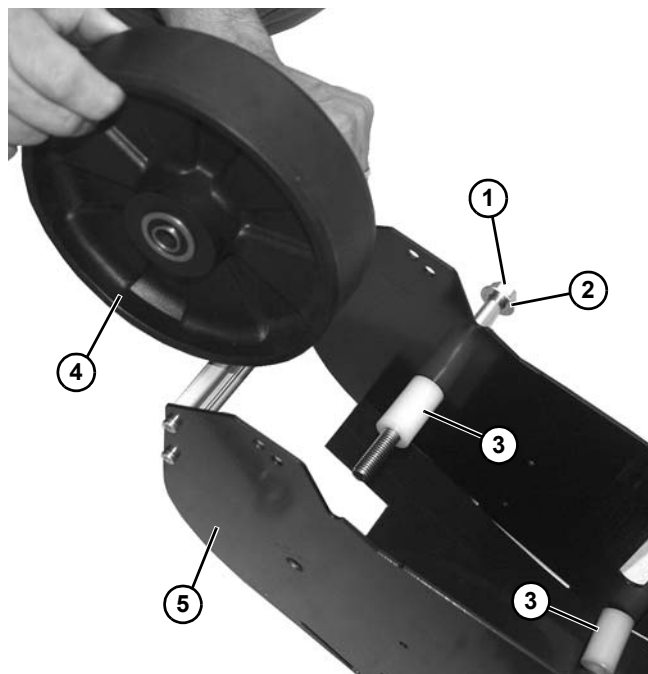

Figure 149
4. Remove bolt (**Figure 149, item 1**), washer (**Figure 149, item 2**), two spacers (**Figure 149, item 3**), and wheel (**Figure 149, item 4**) from take up assembly housing (**Figure 149, item 5**).